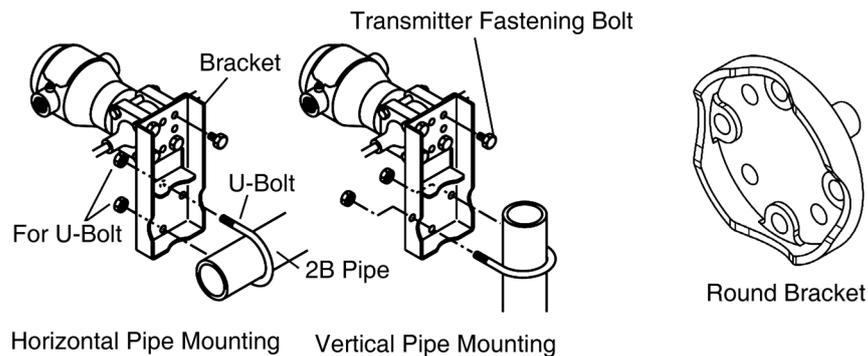

Figure 2-2. Transmitter Body Installation
- Bracket (left diagram in Figure 2-2)
- Round bracket (right diagram in Figure 2-2)
(2) Installation Method